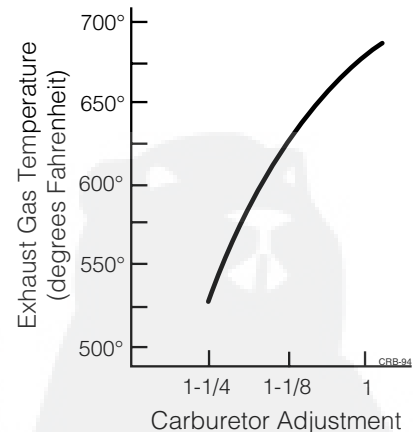

Figure 2.23 Exhaust Gas Temperature vs Carburetor Adjustment
- Incorrect or "lean" fuel-air ratio (Figure 2.23).**